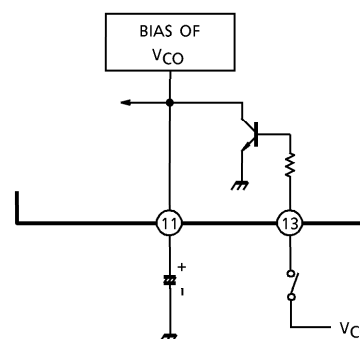
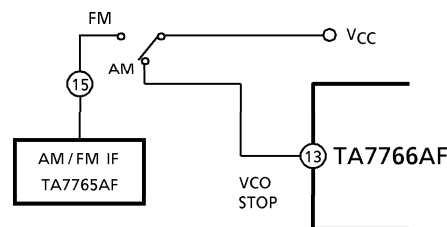

Fig.4
Fig.5
(4) Compulsive monaural function
In case that the terminal pin⑬ is connected to  $V_{CC}$  as Fig.4, this item becomes compulsive monaural mode. That causes the VCO stopping. Connected as Fig.5, switchover between AM / FM mode is possible with one-make switch.
(5) Anti-birdy effect